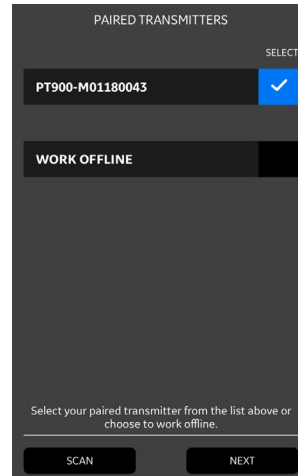

Figure 70: Paired transmitters list
12. Click the *back* button on the tablet to return to the PT900 *app* main menu. Then, select your PT900 transmitter in the *transmitters paired* list and click NEXT to open the main menu. For example, the PT900-M09160025 transmitter is selected from the list in *Figure 70* below.
NOTE: If desired, you may simulate the *app* operation without connecting to the transmitter. To do so, click the *work offline* option in *Figure 70* above.